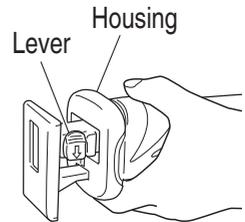

Fig. 11
- (1) Turn on and off the switching trigger several times so that the lever can jump out of the housing completely. Thereafter, turn off the switch and remove the battery (**Fig. 11**).